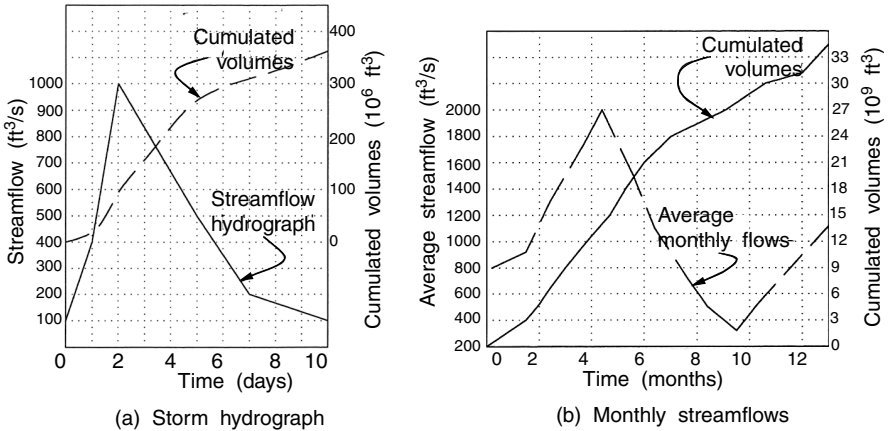

FIGURE F-7 Frequency analysis.
**Frequency distribution** The distribution or relative arrangement of frequencies attached to an event (or specific values of a random variable) over the range of its occurrence. With large amounts of data (e.g., in hydrology), it is sometimes convenient to arrange and analyze them in classes. Common theoretical frequency or probability distributions used in hydrology are the normal, exponential, gamma, log-Pearson type III, lognormal, and Gumbel. See Figure F-7.
**Freshwater** Water with a low mineral content, as expressed by a concentration of dissolved solids (DS) of less than 1000 mg/l. See also brackish water; brine; saline estuarine waters; saltwater or saline water; seawater or ocean waters.